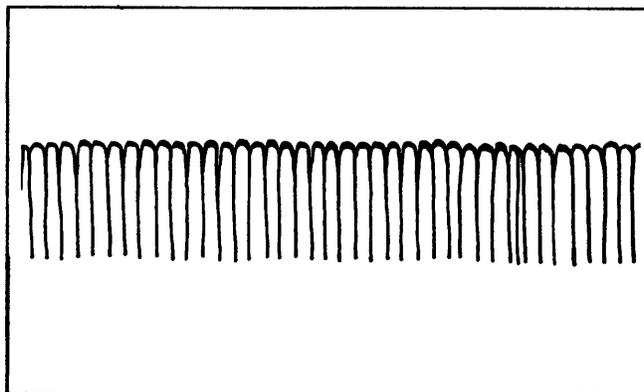

Figure 4-16. SECTOR Pulses
2. Observe the SECTOR pulses as shown in figure 4-16, and count them. There should be 32, between the INDEX pulses.